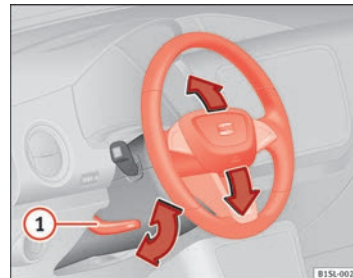

Fig. 33 Mechanical steering wheel adjustment
- Push the lever ⇒ Fig. 33 ① downwards.
- After adjusting the steering column, push the lever ⇒ Fig. 33 ① firmly upwards to ensure the steering wheel does not accidentally change position while driving.